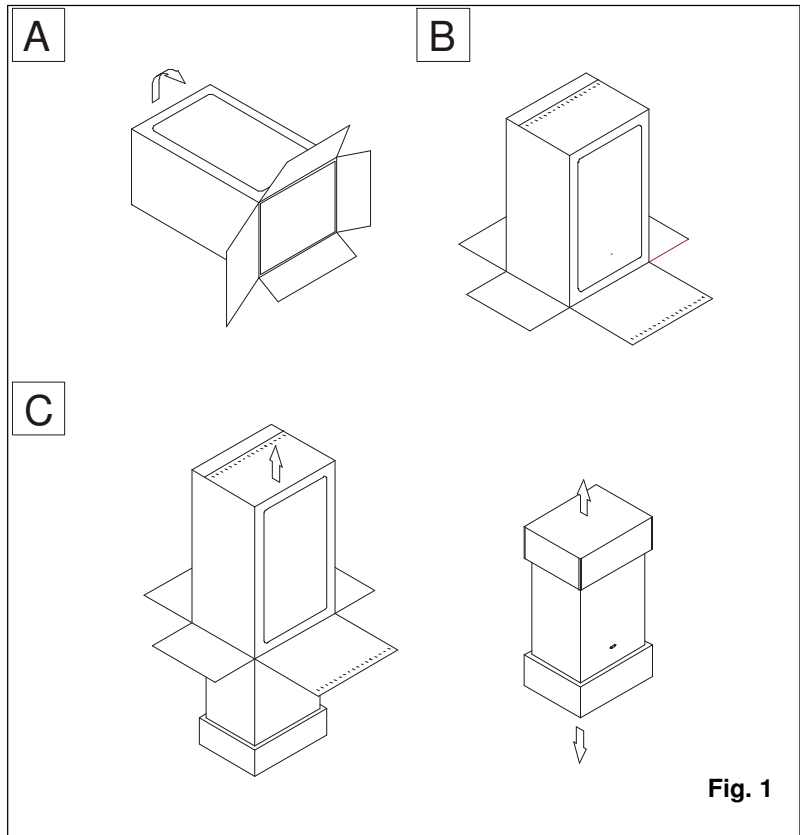

Fig. 1
A. Place the packed appliance on the floor (see fig. 1) making sure that the "up" arrow is facing down. Remove the staples and open out the four flaps of the box.